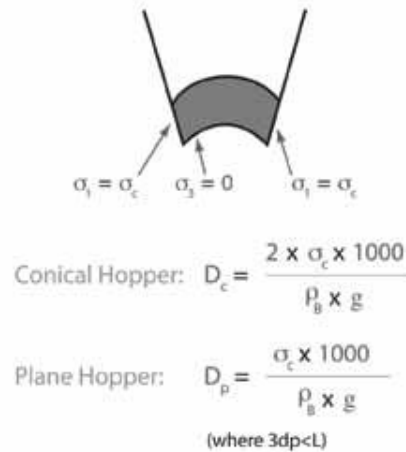
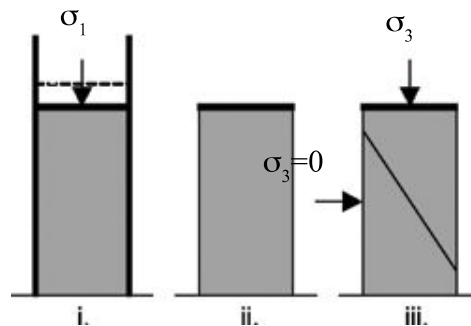

Figure A-2b: Arch
Figure A-4: Uniaxial unconfined failure test
'Arching' (shown in Figure A-2b) is the flow obstruction in a mass-flow vessel, where a stable powder arch forms across the outlet or converging walls of the hopper, thereby preventing flow.
The primary measure of powder flowability is the powder flow function – which gives a measure of the amount of strength the material retains at a stress free surface following consolidation to a given stress level. The simplest way of explaining the flow function is with the uniaxial unconfined failure test shown in Figure A-4, which measures the strength of a free standing column of powder. This condition is analogous to the condition of the powder arch across a hopper outlet shown in Figure A-2b.
- **Estimated Critical Arching diameter [m]:** The minimum silo outlet size for reliable gravity discharge in mass-flow, calculated using the arching equation in Figure A-2b. The stress value is the intercept of the flow function with an $ff=1.4$ line*.